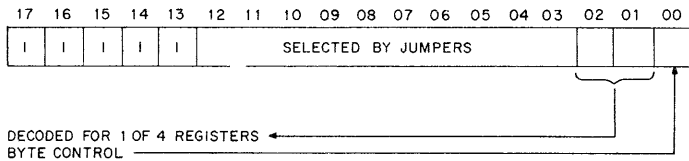

Figure 2-12 Device Register Select Address Format
2.2.4.1 Inputs- The M105 Module input signals consist of 18 address lines, A <17:00>; 2 bus control lines, C <1:0>; and a master synchronization MSYN line. The address selector decodes the 18-bit address on lines A <17:00> as described below. This address format, used for selecting a device register, is shown in Figure 2-12. Note that all inputs are standard bus receivers.